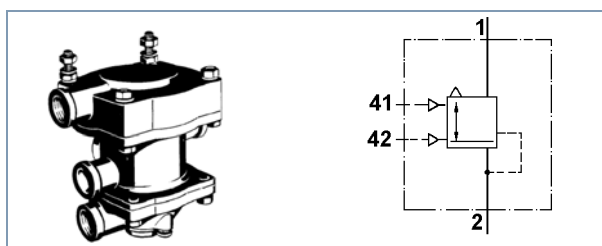

Fig. 1 Trailer Control Valve 973 002 ... 0 / Functional symbol
- Connect the device to the test bench ports (see fig. 1) or according to the test diagram.